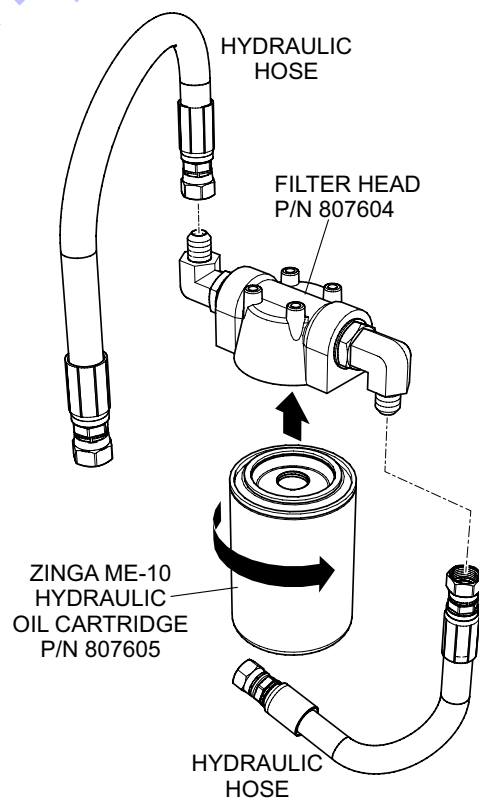

Figure 11. Attaching Hydraulic Hoses
3. Install the new hydraulic oil filter cartridge (Figure 11) first by hand until it makes contact with the filter head surface. Tighten it another 3/4 turn using a filter wrench.